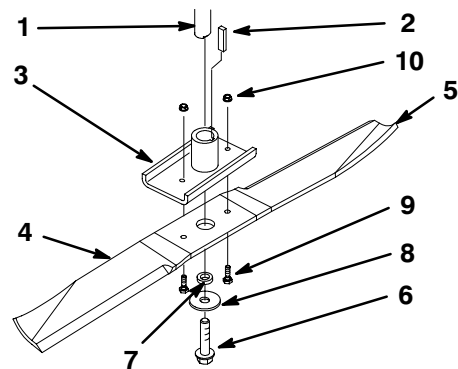

Figure 47
Hold the blade end using a rag or thickly-padded glove. Remove the retainer bolt with its washer and spacer, and the shear bolts and locknuts from the blade retainer (Fig. 47).
1. Install the key in the retainer and install blade retainer to spindle (Fig. 47).
2. Install the blade, spacer, washer, and retainer bolt to spindle (Fig. 47).
4. Position the blade onto the blade retainer and secure with shear bolts and locknuts (Fig. 47).